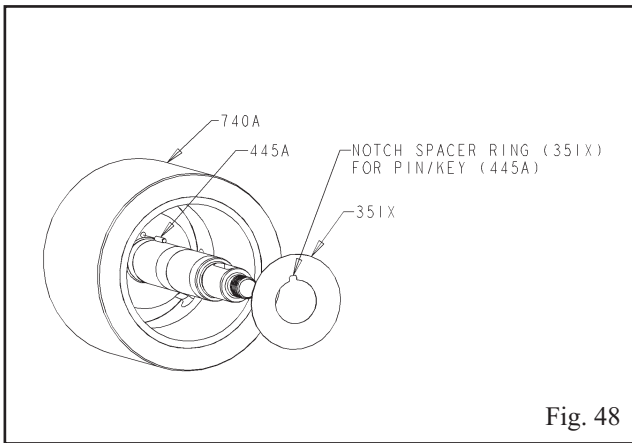

Fig. 48
- Cut out a small notch on the inside diameter of the intermediate ring gasket (351X) so that a recess for the driven carrier pin (445A) or key (depending on size) is produced (Fig. 48)